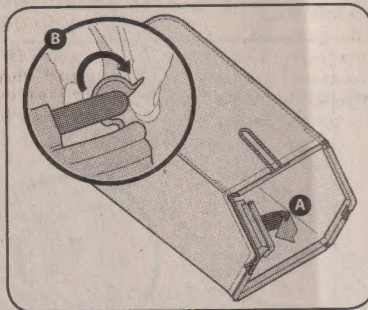

Figure 2-8
1. Follow steps below to assemble the grass catcher (if needed). Make certain bag is turned right side out before assembling (warning label will be on the outside). See Figure 2-8.